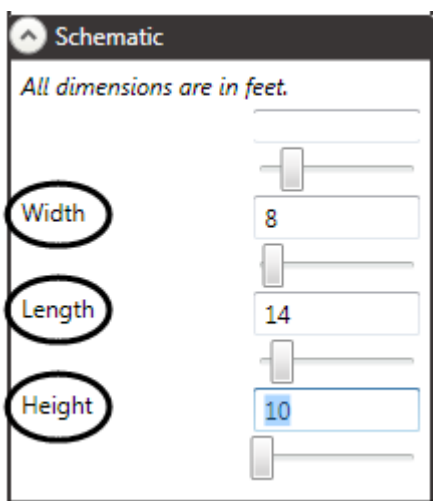

Figure 185
3. Adjust the **Width**, **Length**, and **Height** properties (Figure 185) by using either the sliders beneath each text field or typing in a dimension directly. As you change the dimensions, the winch model in the **Stage Model Viewer** will update.